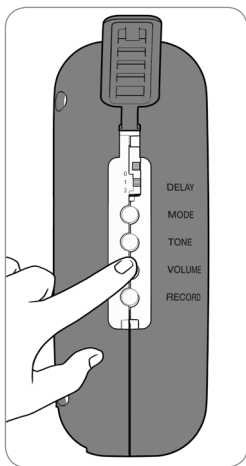

Fig. 7
4. Press VOLUME button on left side of alarm to scroll through the volume selections (Fig. 7).
5. Each time you press the button, the volume changes and a two (2) second sample plays.